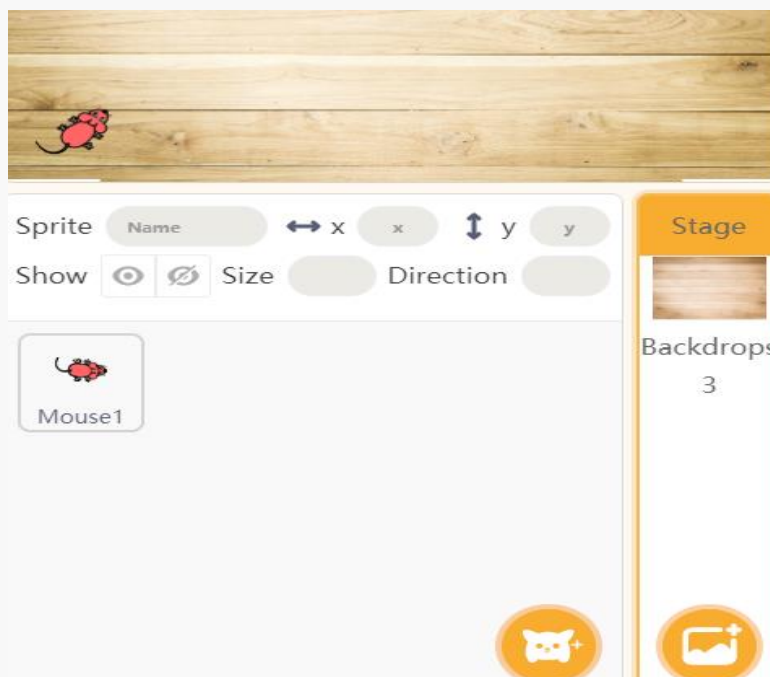

Figure 4-2
1. Add the sprites mouse, cat and ball, and set the size to 50%, 70% and 40% respectively. Then add a background for the stage. Shown as figure 4-2.